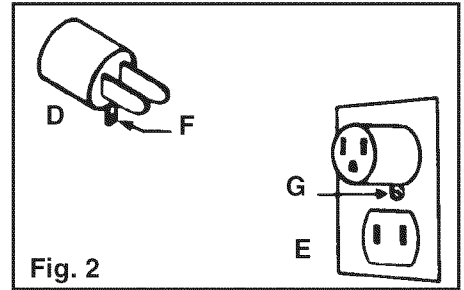

**Fig. 1**
Improper connection of the equipment-grounding conductor can result in the risk of electric shock. Check with a qualified electrician or service person if you are in doubt as to whether the outlet is properly grounded. Do not modify the plug provided with the appliance - if it will not fit the outlet, have a proper outlet installed by a qualified electrician. This appliance is for use on a nominal 120 volt circuit and has a grounding plug that looks like the plug (A) illustrated in sketch (Fig. 1).
A temporary adapter (D) may be used to connect this plug to a 2-pole receptacle (E) if a properly grounded outlet is not available (Fig. 2). The temporary adapter should be used only until a properly grounded outlet (B) can be installed by a qualified electrician (Fig. 1). The green colored rigid ear, lug, or the like (F) extending from the adapter must be connected to a permanent ground (G) such as a properly grounded outlet box cover (Fig. 2). Whenever the adapter is used, it must be held in place by a metal screw. **NOTE:** In Canada, the use of a temporary adapter is not permitted by the Canadian Electrical Code.